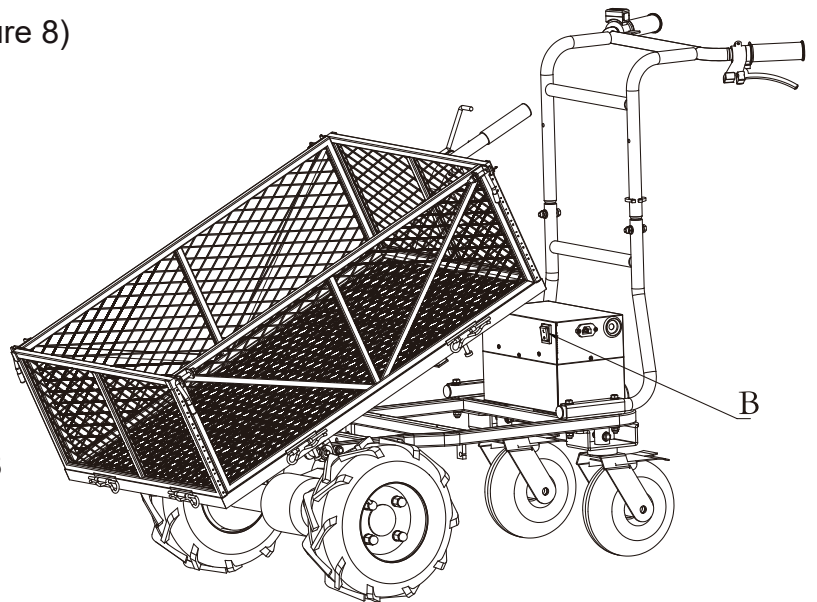

Figure 8
1. Turn on the power switch (B). (See figure 8)